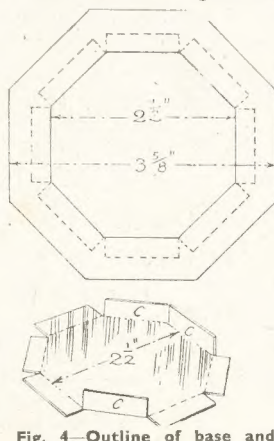

Fig. 4—Outline of base and tray
The upper layer of the base, as (B) in Fig. 3, is set out in a similar manner to (A), being the main piece below. The outline of piece (B) is given in Fig. 4 in the solid lines, and this again is set out on  $\frac{1}{2}$ in. wood and cut out. Glue the two pieces together and clamp up.
Being of wood, some protection must be given against the hot ash, and to this end a neat little metal tray is formed from brass or copper or even tin which could be painted or japanned over. The tray consists of an octagonal piece of metal set out 3ins. square. It has an inner shaped piece for sinking in the depth of the wood overlay, marked out  $2\frac{1}{2}$ ins., as seen in the lower diagram in Fig. 4.
The metal can be cut with a pair of tinman's snips or an old pair of scissors. Snip out the V-shaped pieces of the metal so that when each of the eight sides is angled up and soldered the appearance is as (C) in Fig. 4, three only of the upturned sides being shown here, the others lying flat and made ready for